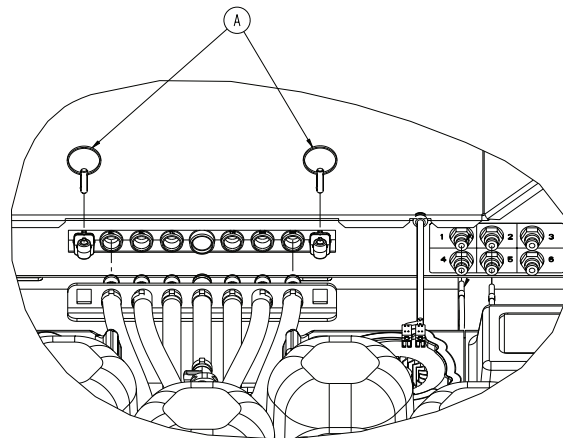

Figure 5 – Retaining pins
6. Remove the two retaining pins (A) from the hose quick connection on the foot box assembly (Figure 5). Save the pins.